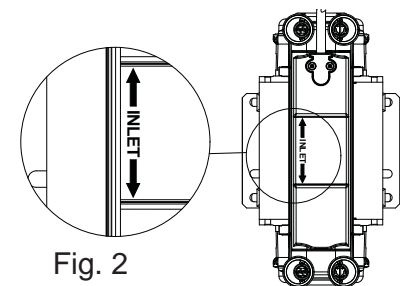

Fig. 2
- 2.22 **Direction of flow:** Ensure the water inlet supply is connected to the correct pump ports indicated by INLET arrow/s detailed on the pump rating label Fig. 2.